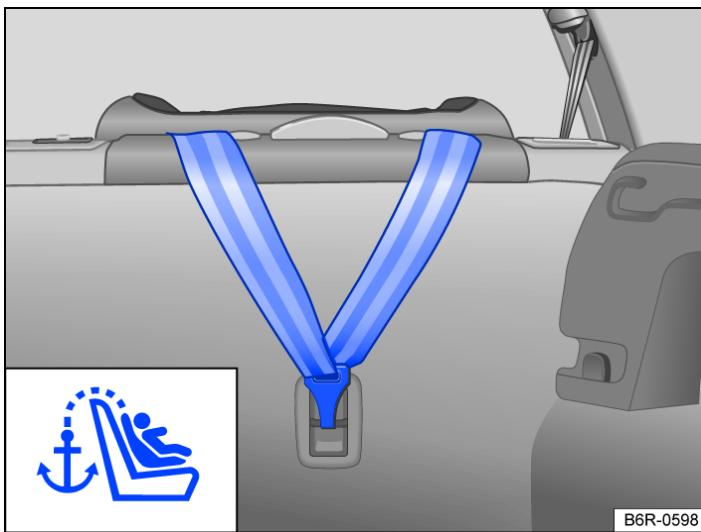

Fig. 1 In the luggage compartment: attached top tether.
The location of the ISOFIX anchor points is shown by a symbol → *Fig. 1*.
- Guide the top tether of the child seat to the rear into the luggage compartment and hook it into the corresponding top tether anchor ring → *Fig. 1*.